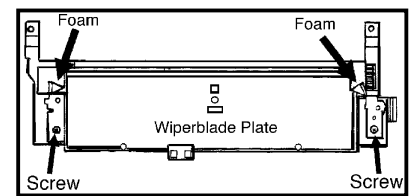

Figure 3
5. Remove the two screws from the wastebin plate. Gently move back the foam at each end (Fig 3). (Note: Carefully use a small X-acto® knife to manipulate corners and edge of the foam.)